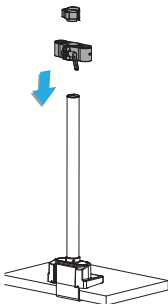

Figure 7
2. Slide the **Shoulder Pole Mount** and **Cable Management Clip** onto the **Pole**. (Figure 7)